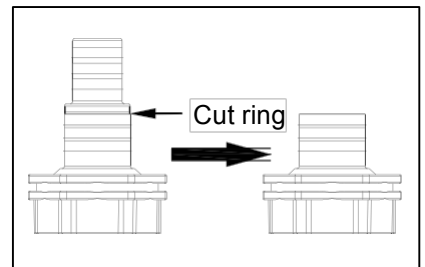

Fig. 4
4. For maximum water flow, cut the adapter as shown using a hacksaw. Fig. 4